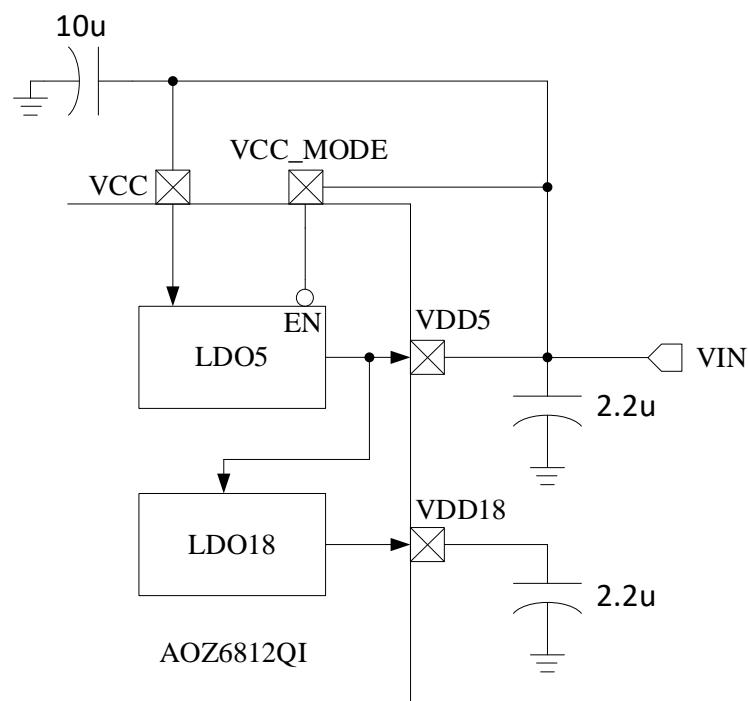

Figure 31-4 Low-voltage Single-power Supply Mode
- Low-voltage Single-power Supply Mode: VCC\_MODE = 1 and VCC = VDD5 = 3 ~ 5.5V. See Figure 31-4 for details.